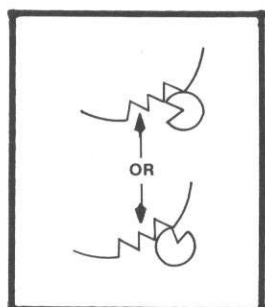

Figure 79
21. Temporarily replace the winding seat and the wind lever to check the timing of the film-counter gear. Cock and release the shutter three times (you can release the shutter by pushing the first-curtain latch). The notch in the top section of the film-counter gear should now be positioned as shown in Fig. 79 with respect to the teeth of the counter. If necessary, you can change the timing between the film-counter gear and the pinion on top of the sprocket. Push the first-curtain brake lever toward the back of the camera. Then lift the film-counter gear high enough to disengage it from the pinion. Be careful that you don't grasp the top surface of the film-counter gear with your tweezers. If you scratch the top surface, the counter dial may advance twice for each wind-lever stroke. Rather, grasp the film-counter gear by the thin portion of its shaft.